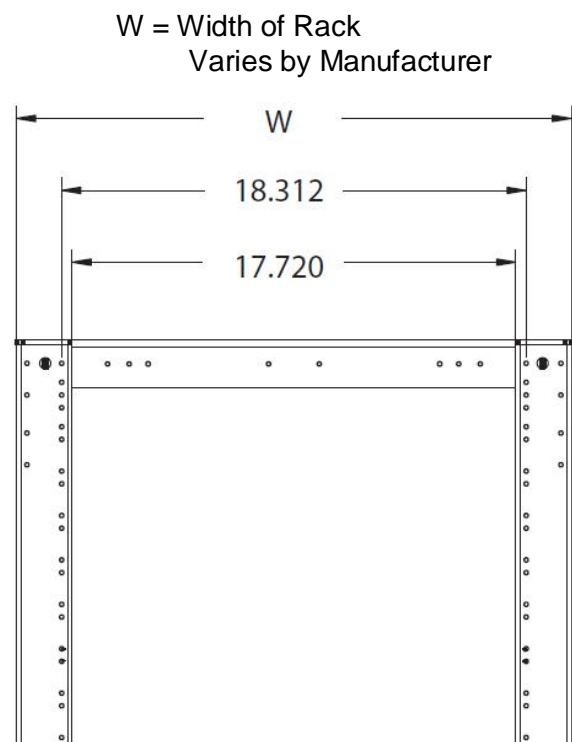

Figure 2
- Figure 2: left to right dimensions on a standard 19-inch equipment frame per ANSI/EIA-310-D-1992